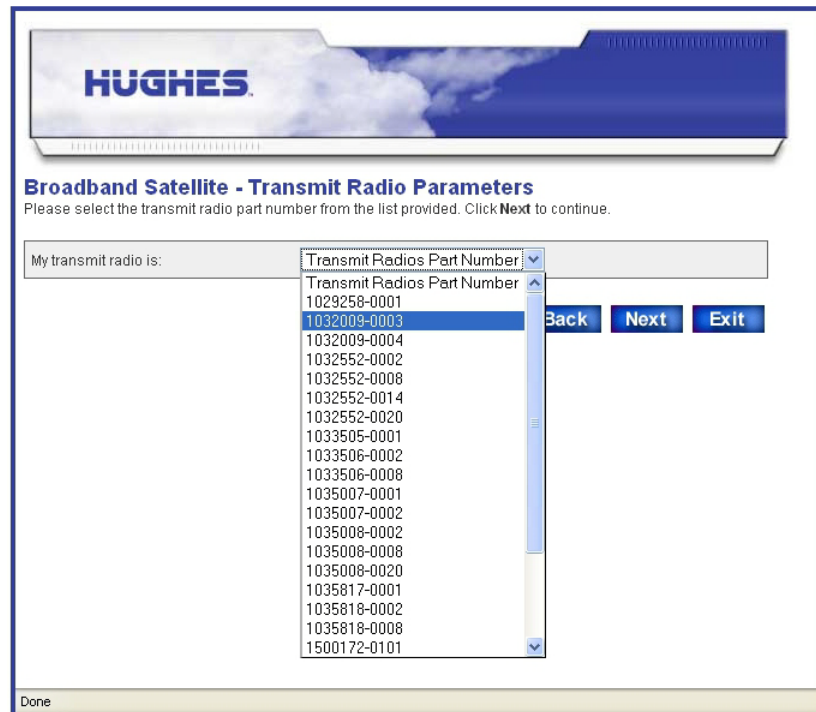

Figure 25: Selecting the transmit radio by part number
**Note:** The list of transmit radio part numbers may be updated at any time, so you may see different part numbers than those shown in Figure 25 on page 44.